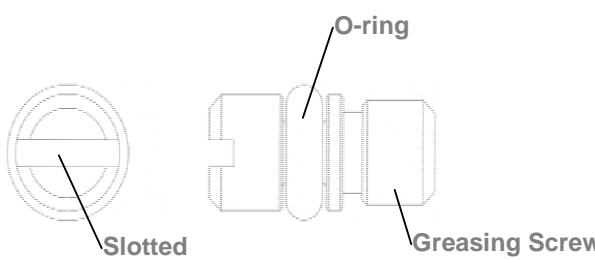

Fig. 234
- ③ Use the screwdriver either, the slotted to tighten the greasing screw, Fig. 234.